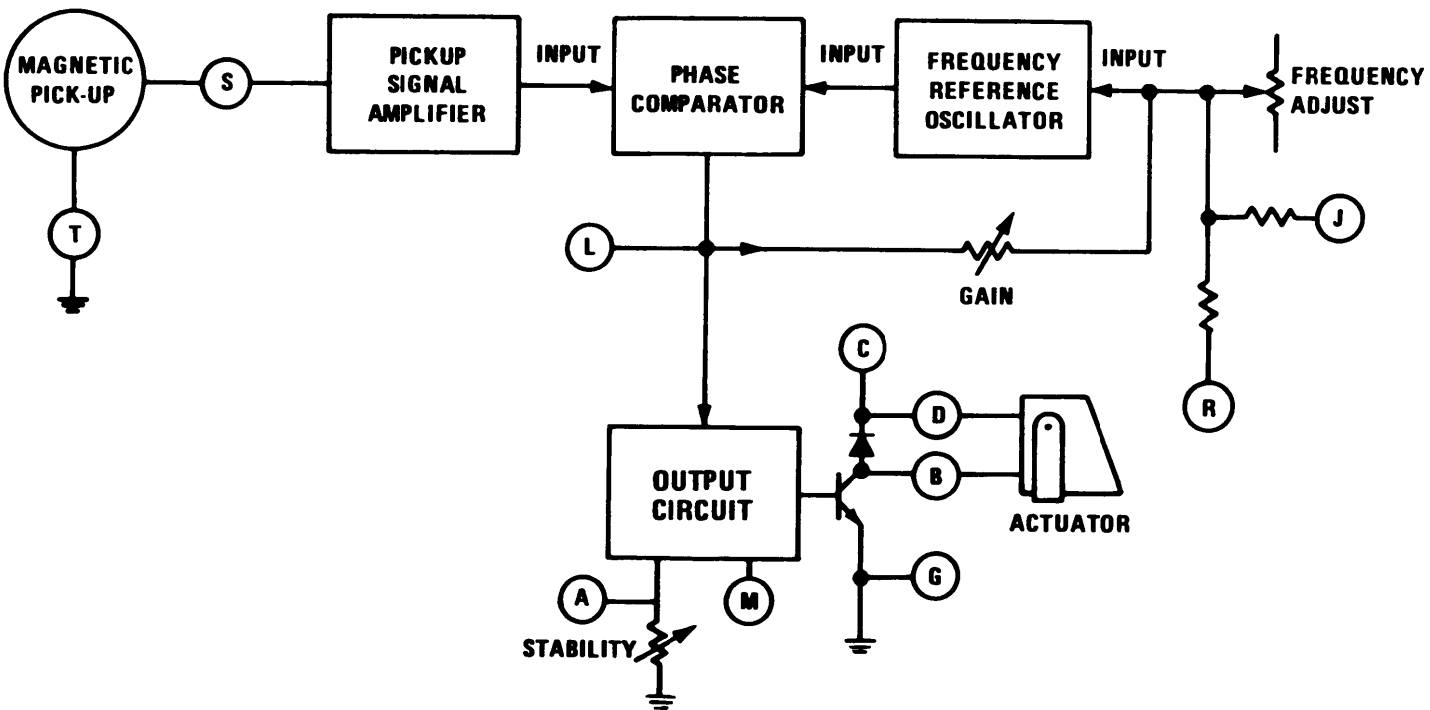

Figure 4-30.1. Functional Theory of Operation
(1) The electric governing system is a speed (frequency) sensing system used to maintain constant engine speed and generator output frequency during periods of unchanging load and when load additions or deletions occur. The system consists of a control unit, magnetic pickup and an electric throttle actuating unit. The engine speed signal is obtained from a magnetic pickup mounted in the flywheel housing in close proximity to the flywheel ring gear. The frequency of the pickup signal is proportional to engine speed. Figure 4-30.1 shows the functional theory of operation.
(2) The control unit has four distinct circuits; pickup signal amplifier, frequency reference oscillator, phase comparator and output circuit.